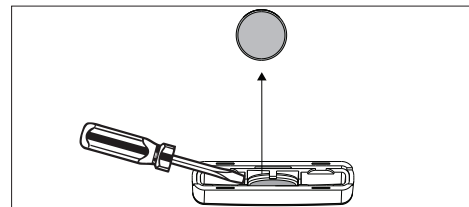

Figure 4.4: Remove magnet from magnet cover
2. Pry out the enclosed magnets from the magnet cover using a small flat head screwdriver or similar tool. See *Figure 4.4*.